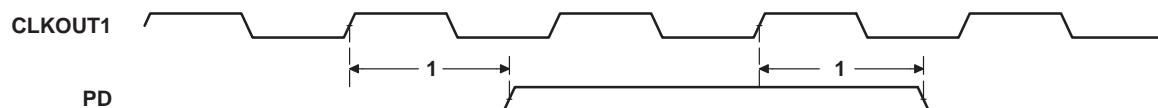

Figure 39. Power-Down Timing
**switching characteristics for power-down outputs (see Figure 39)**